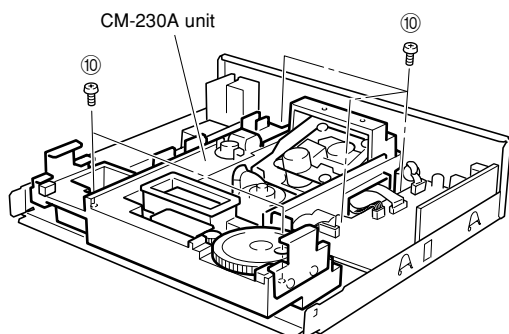

Fig. 5
- Remove 5 screws (⑩). (Fig. 5)
- Take the CM-230A unit out slowly. (Fig. 5)